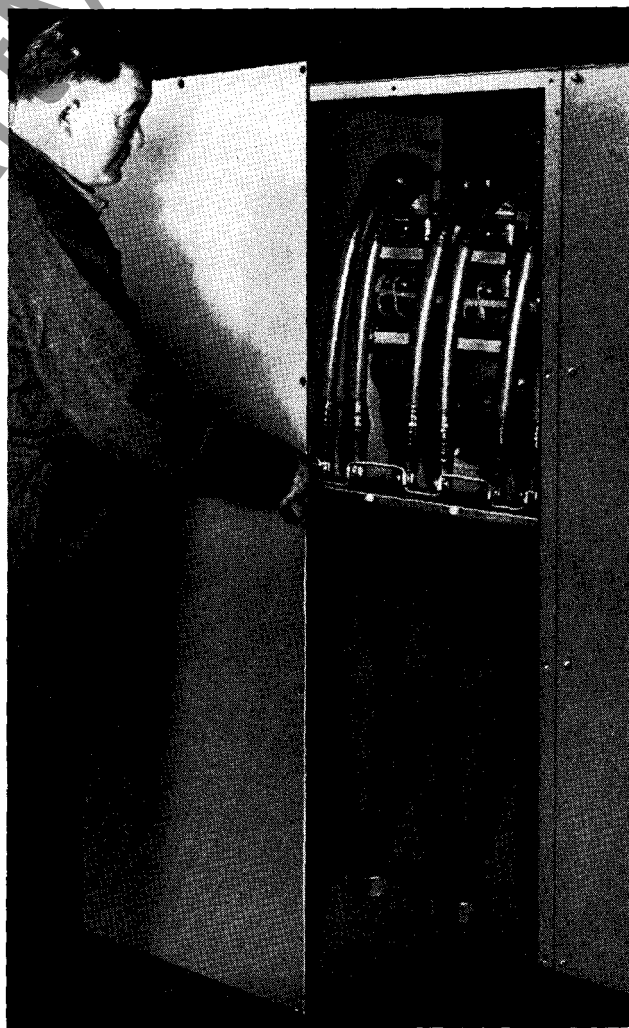

FIG. 36. Removing Rear Barrier—(For inspection of current transformers and main cable connections).
**High Voltage Parts.** Access to current transformers and main cable connections is gained by removing the bolted cover as illustrated in Fig. 36.